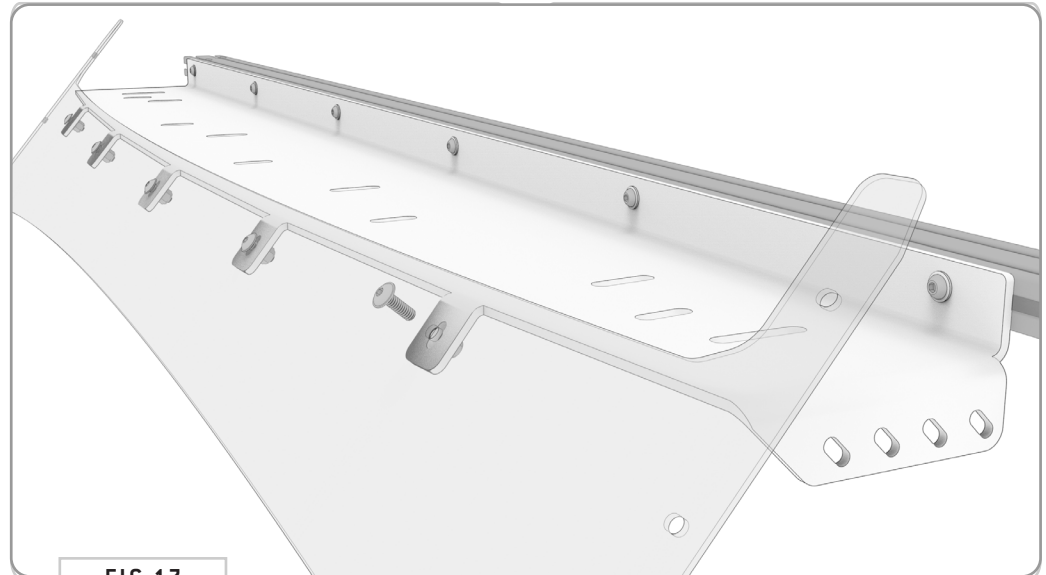

FIG 17
5.3 Attach Front Fairing: Attach the Front Fairing to the Assembly using 1/4-20 x 0.75 Flanged Button Head Screws, Flat Washers and Nylon Locknuts (FIG 17+18).